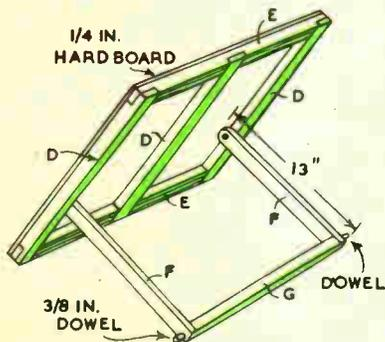

Fig. 3
The backrest is made up from $\frac{1}{2}$ in. plywood or hardboard, Fig. 3, and measures 2ft. by 20ins. overall. It is framed at the back by pieces (E) and (D) cut from 1 $\frac{1}{2}$ in. square wood. Halve these pieces together and secure to the plywood by means of screws. The struts (F) are cut from $\frac{3}{4}$ in. wood, 1in. wide. Fix the crosspiece (G) in position by means of $\frac{3}{4}$ in. dowels, which will pro-
ject $\frac{1}{4}$ in. as indicated in Fig. 3. Use waterproof glue on these joints to give extra strength. Pivot the struts to the inside of pieces (D) as shown.